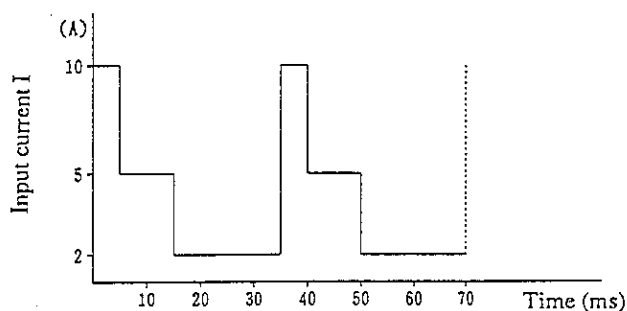

Figure 3.5-9
Assume that data stored on memory units A, B and C are as shown in Table 3.5-2. The switching actions in this case will be as shown in Figure 3.5-9.
- If you need a trigger signal delivered in synchronization with the switching timing, press the [SHIFT] + [R SET] (CONFIG) keys to display the configuration menu and select [ON] of menu [8: SW Trig Out]. If you do this, a trigger pulse signal (in synchronization with the switching points shown in Figure 3.5-9, for example) will be delivered. A trigger output terminal for this purpose is provided on the front sub-panel. The trigger output signal is delivered also to the trigger output terminal of the external control connector on the rear panel.
① Press the [I SET] or [R SET] key to enable the switching mode of operation.